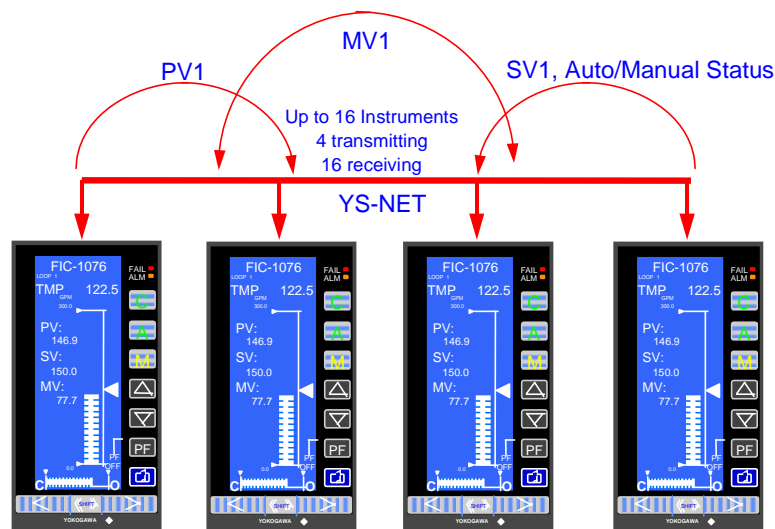

Figure 1
Peer-to-peer communications can be defined as the ability to digitally share data between two or more like devices, without the need of a master/slave relationship. Peer-to-peer allows selected data points to be shared continuously without the need to request and read data. YS170 (Style 3 or higher) has an option for peer-to-peer communications, model suffix /A33. YS-Net is the name for the communications network. Any address in a YS170 program can be transmitted via YS-Net to other YS170's. YS-Net peer-to-peer is pre-configured, allowing four (4) YS170 controllers to transmit up to four (4) analog values and sixteen (16) status points each to up to sixteen (16) controllers resident on the network. Refer to Figure 1.